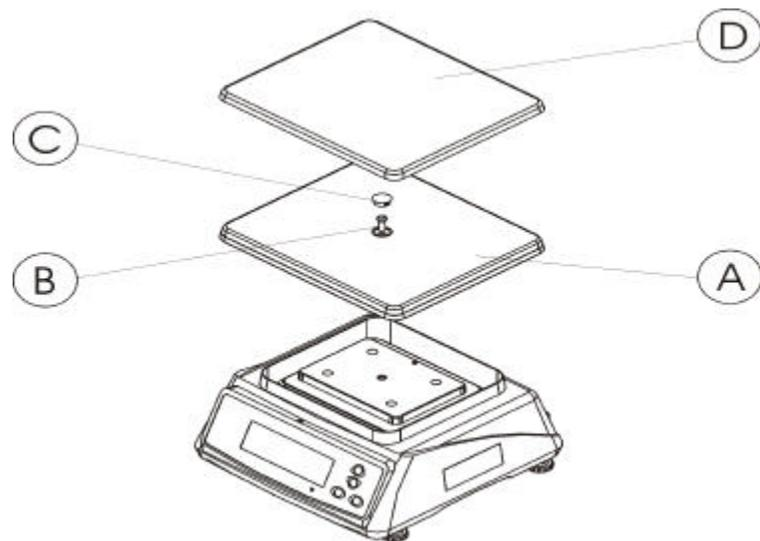

FIG 1
1.2 Locks the plastic platter (**FIG 1 A**) to the platter holder, with the screw (**FIG 1 B**) included, and then apply the rubber cap (**FIG 1 C**).
1.3 Place the stainless steel platter (**FIG 1 D**) onto the plastic platter.